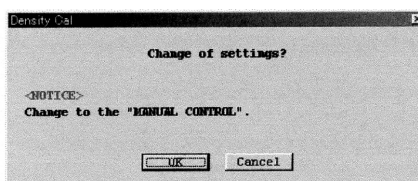

Fig.65
- ③ After filling in all the fields required, click on "OK" button. A message box as shown in Fig. 65 then appears.